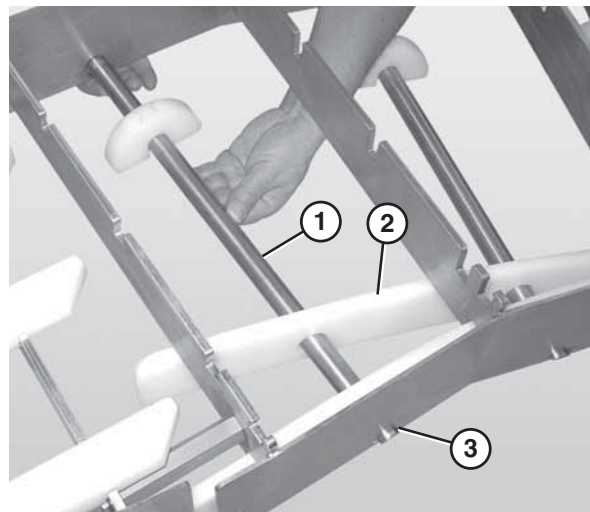

Figure 40
3. Slide the long end of the curve return shaft (Figure 40, item 1) through the center hole in the return bottom wear strip (Figure 40, item 2).
5. Push up on the return shaft and slide the notched end of the shaft through the small slot on the opposite side of the frame (Figure 40, item 3).